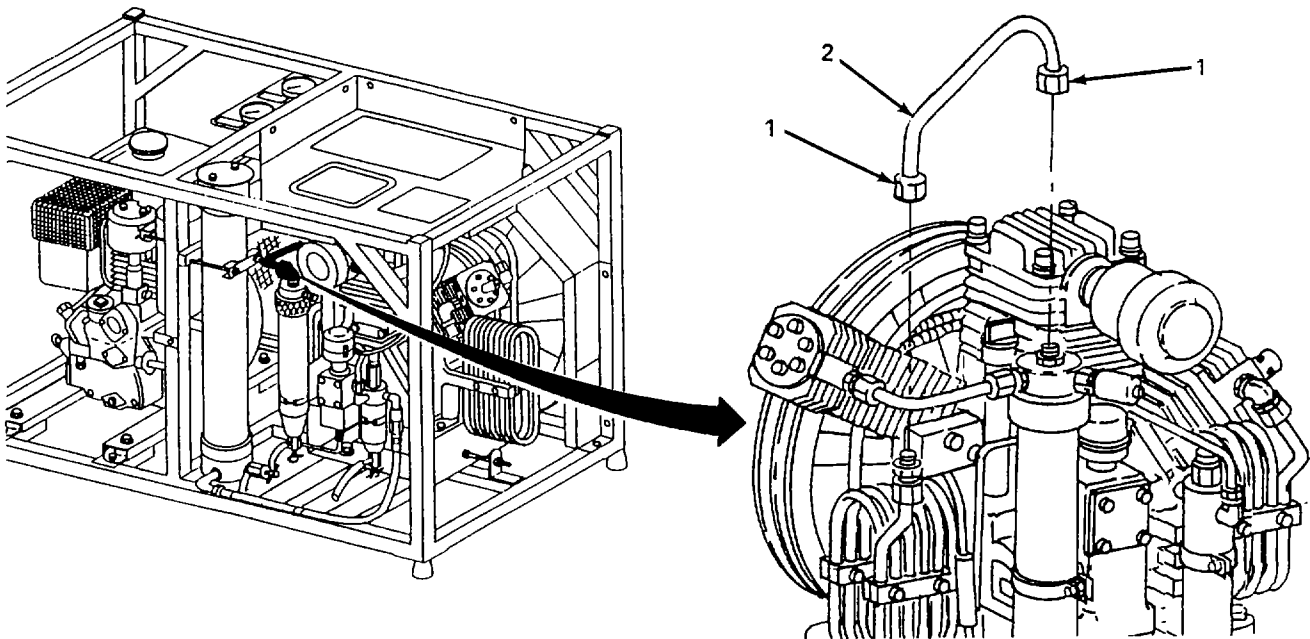

Figure 5-22. Intercooler to Separator Line, Replace.
- f. Replace Intercooler to Separator Line. (figure 5-22)